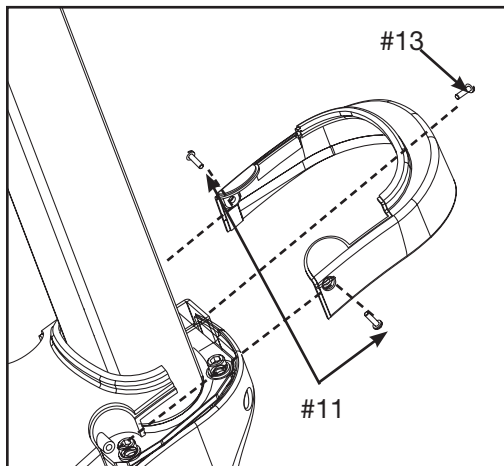

Figure 7
- A. Locate and place front cap (#3) on the front of the unit as shown in Figure 7.